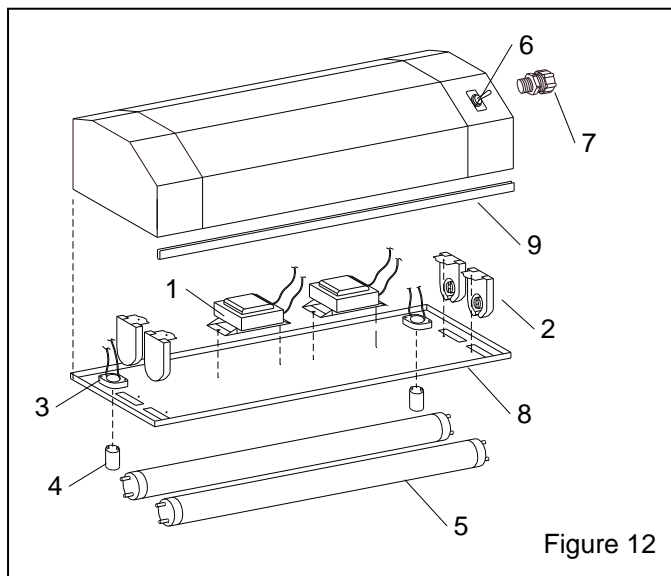

Figure 12
**9.5 Light Shield Assembly w/Switch, Figure 12**